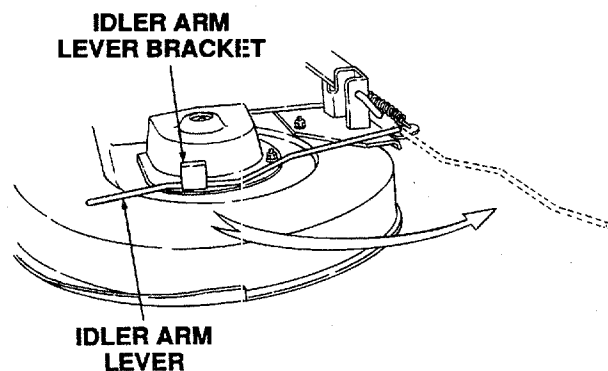

Figure 53
9. Disengage the deck idler arm lever from its stop bracket and release the spring tension by rotating the lever out and rearward (Refer to Figure 53).